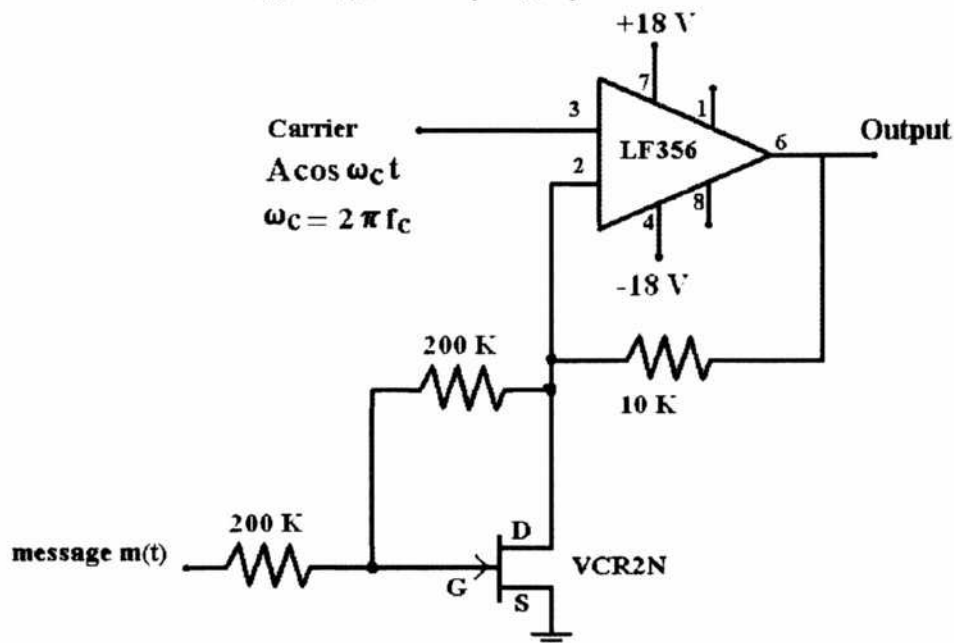

Fig.5. AM modulator
The circuit diagram of a simple AM modulator is shown in Fig. 5. This circuit implements a two-quadrant multiplier using a n-channel junction FET, the VCR2N, that works as a voltage-controlled resistor (VCR), and an operational amplifier, the LF356.
1.1. Prepare circuit of Fig. 5:
Keeping the power supply off, assemble the circuit of Fig.5. To generate the carrier and the message you will need two signal generators. For the carrier use a sine wave, 100mVpp, 15 kHz, no DC component. For the message you will use three types of waveforms: sine, square and triangular. Each signal having amplitude of 5Vpp, and a frequency of 500Hz.
Connect this envelop detector to the output of your modulator (circuit in Fig. 5). The signal at $V_o(t)$ should be your recovered message.